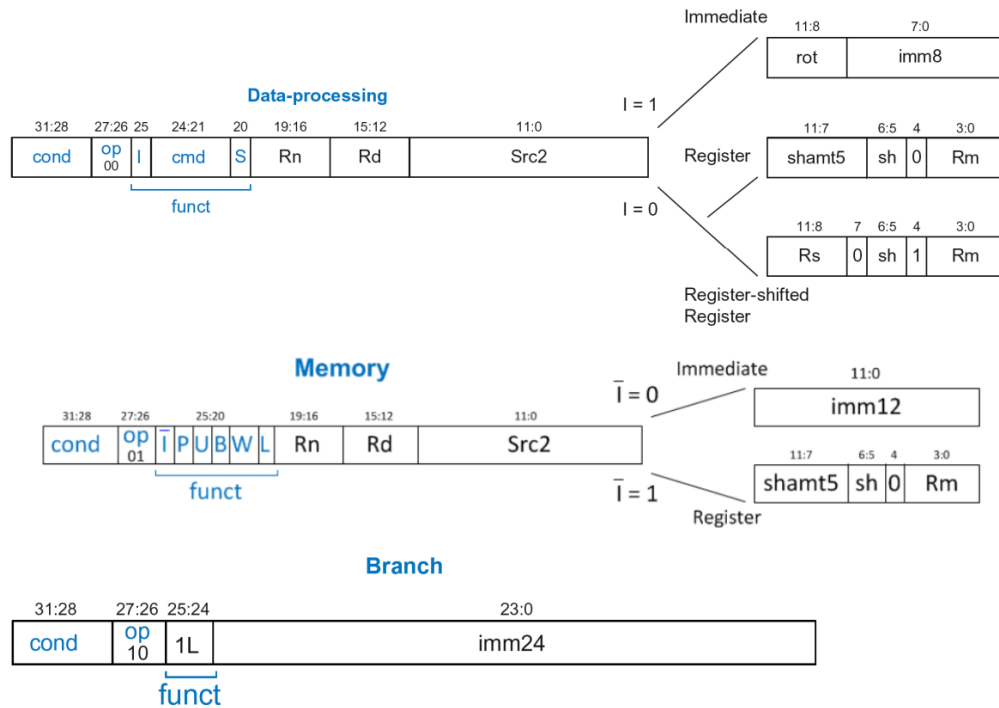

Figure 1: ARM ISA Format
**Note:** For this lab, you will use the 32-bit ARM ISA format as shown in Figure 1. You can check any resource from the web for any instructions not explained here, as we use standard ARM format.
In this part of the laboratory work, given your ISA, you are expected to design a full datapath that would support all the instructions included in Figure 1. Using pipelined processor implementation, you will use five stages for your datapath as in lecture notes: Fetch, Decode, Execute, Memory, and Writeback. 5 stages are important because the test bench won't work with different stages.